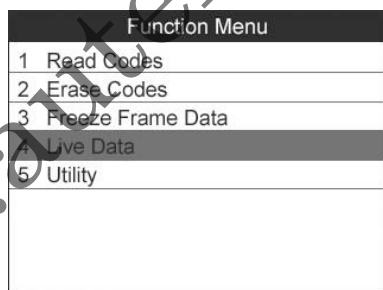

Figure 13.2
- 1) From the function menu (Figure 13.2) use the **UP/DOWN** scroll button to select **Read Codes** and press the **OK** button.
- 1) From the function menu (Figure 13.2) use the **UP/DOWN** scroll button to select **Erase Codes** and press the **OK** button.
- 1) From the function menu (Figure 13.2) use the **UP/DOWN** scroll button to select **Freeze Frame Data** and press the **OK** button.
From the function menu (Figure 13.2) use the **UP/DOWN** scroll button to select **Live Data** and press the **OK** button.
From the function menu (Figure 13.2) use the **UP/DOWN** scroll button to select **Utility** and press the **OK** button. The scan tool displays function menu as below.